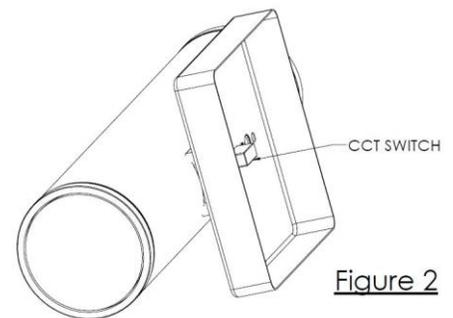

Figure 2
- CCT switch is located on backside of fixture per Figure 2. Adjust switch to desired temperature of 2700K, 3000K, 3500K, 4000K, or 5000K as seen below. Note: Fixture is preset to 3000K from factory.